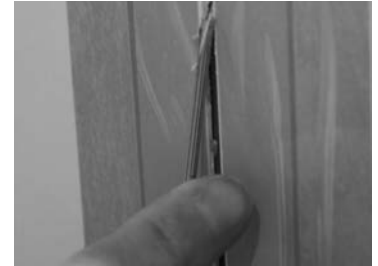

FIGURE 12: REMOVE EXCESS ADHESIVE
7. Remove any adhesive between the panels with a sharp edged screwdriver or small flat blade (Figure 12).